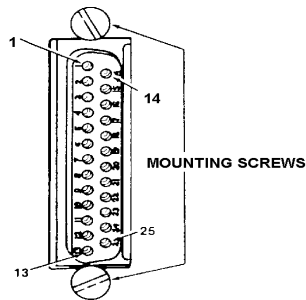

Figure 23. 25-Pin Connector.
- c). Move to the rear of the printer two screws holding the 25-pin connector to the chassis (See Figure 23). Remove the cable and connector from the unit.